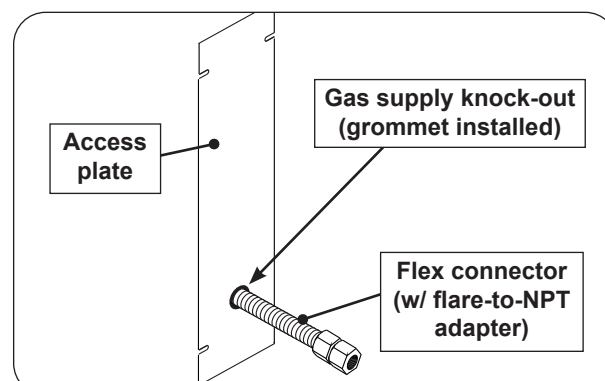

Fig. 28-4 Access plate view & install orientation
2. Remove the plastic grommet (attached to the flex connector) and insert it into the newly created opening. Then route the flex connector through the opening. See Fig. 28-4.